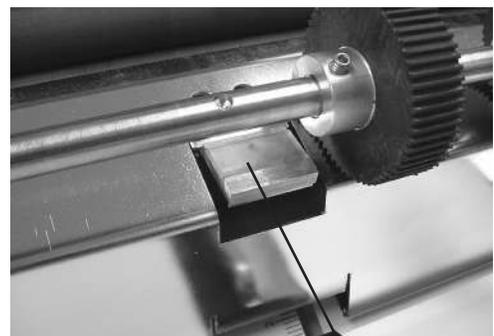

Fig. 67
4. Peel off the pad (Fig. 67).